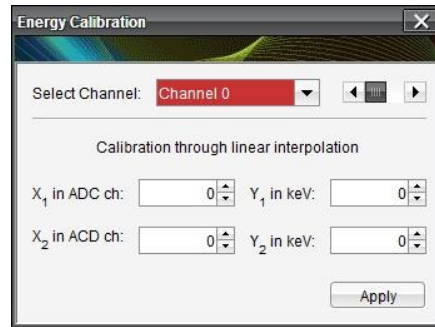

Fig. 6.12: Energy Calibration window
- **“Energy X-Axis” menu:** selects the unit of measurement of the Energy x-axis in the histogram between “ADC Counts” and “keV”. In order to define a keV scale, the “Calibrate” button opens the Energy Calibration window (**Fig. 6.12**) where it is possible to calibrate the spectrum by a dedicated menu: a customized Calibration line can be built here. Different calibration lines are available for the different channels.